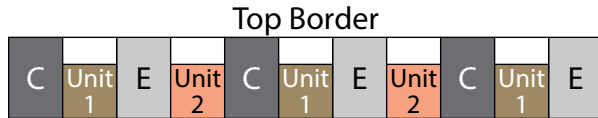

Fig. 6
4. Sew together (1) 4 ½" x 6 ½" Fabric C rectangle, (1) Unit 1 rectangle, (1) 4 ½" x 6 ½" Fabric E rectangle, (1) Unit 2 rectangle, 4 ½" x 6 ½" Fabric C rectangle, (1) Unit 1 rectangle, 4 ½" x 6 ½" Fabric E rectangle, (1) Unit 2 rectangle, 4 ½" x 6 ½" Fabric C rectangle, (1) Unit 1 rectangle and 4 ½" x 6 ½" Fabric E rectangle, in that order from left to right, to make the Top Border (Fig. 6).